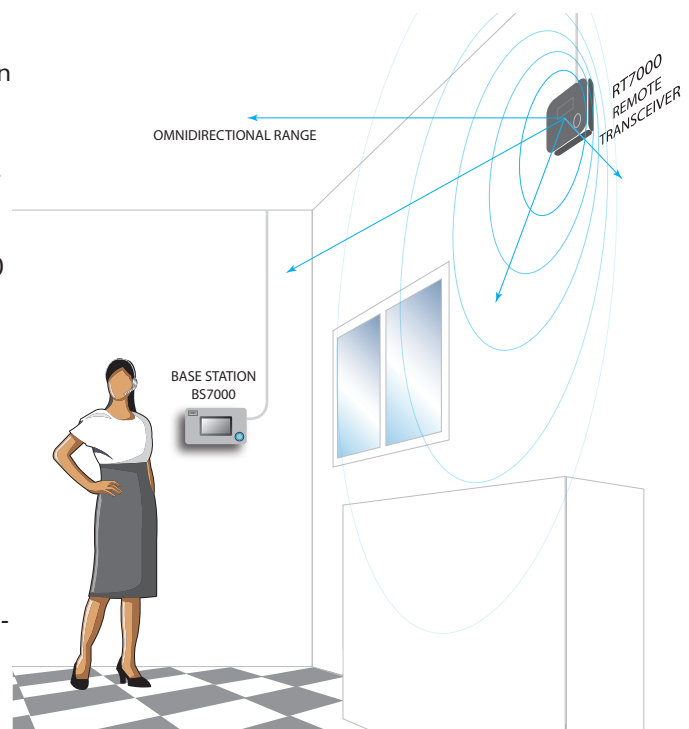

Fig. 4.1
- The RT7000 is omnidirectional so mount the RT7000 high in a central location to where the headsets are typically used (see Fig 4.1).